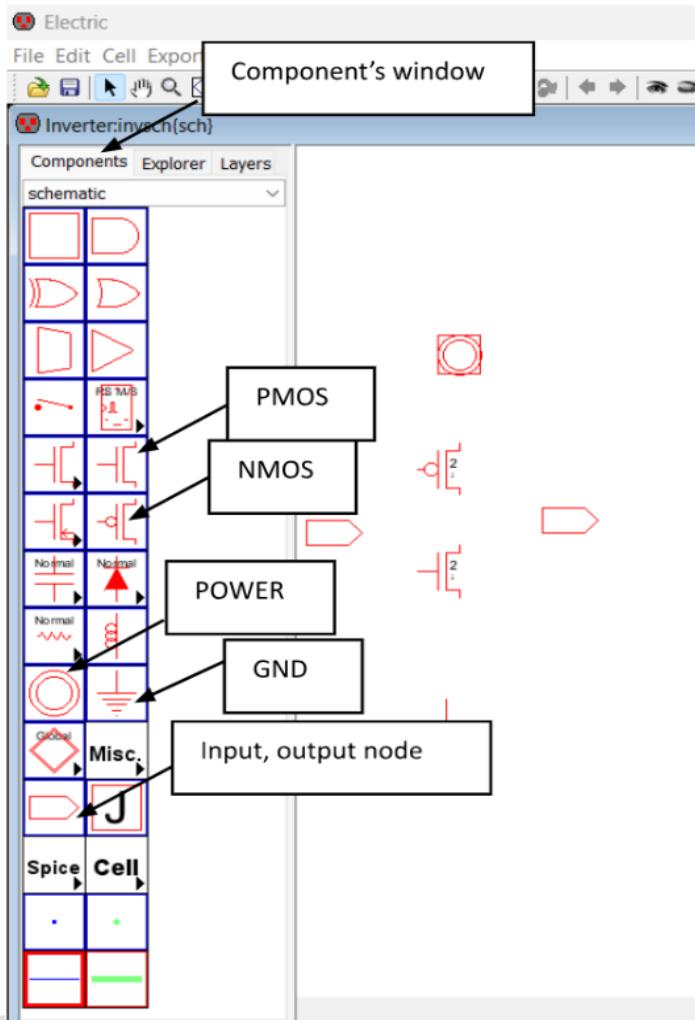

Figure 1.9: Selecting components.
7. Select the required components, including the NMOS transistor, PMOS transistor, input, output, VDD, and GND (see Figure 1.9).